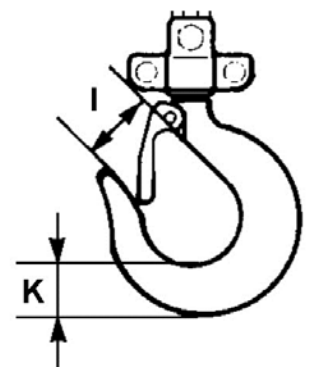

Fig. 4 Load hook
**Checks on load hook** (see Fig. 4 and Table 1)